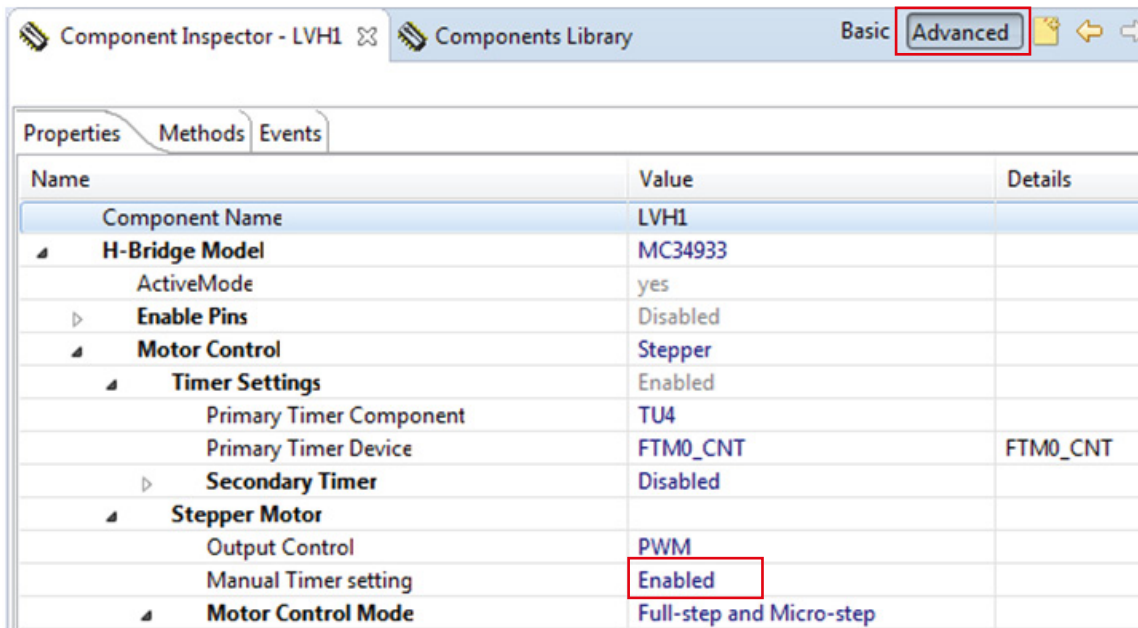

Figure 8. Enabling the Manual frequency setting
3. In the Properties tab, find the **Motor Control** -> **Stepper Motor** -> **Manual timer** setting property and set the value to **Enabled**. Make sure that component visibility is set to **Advanced** (see Figure 8).